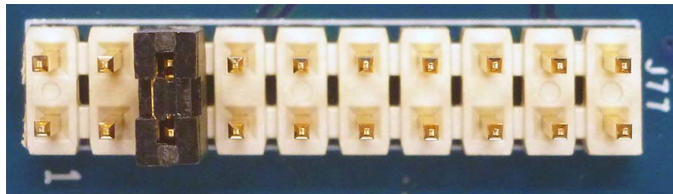

Figure 52.
- (8) PWM_TRI is already connected to VCC on the ISL78224EVAL2Z.
- (9) Jumper J₇₀ Pin 2 to J₇₀ Pin 3 (VCC) to command boost operation.
- (10) Jumper J₈₈ Pin 2 to J₈₈ Pin 1 (VCC) to command continuous conduction mode (CCM) or J₈₈ Pin 2 to J₈₈ Pin 3 (GND) to command diode emulation mode (DE).
- (11) Jumper J₈₉ Pin 2 to J₈₉ Pin 1 (VCC) to command Latch off Fault protection (LAT) or J₈₉ Pin 2 to J₈₉ Pin 3 (GND) to command hiccup fault protection (HIC).
- (12) Remove jumper J₄ to disconnect VIN_FLY from VIN.
- (13) Connect V6 (TP₁₉) to a disabled external 6V source.
- (14) Connect VIN (TP₁₄) and V12 (TP₁₈) to a disabled external 12V source.
- (15) Enable the BAT12, V6, VIN, and V12 voltage sources.
- (16) Jumper J₅₈ to command enable.
- (17) Enable can be verified by observing the presence of voltages at PVCC, VCC, MCUVDD, and CLK_OUT.
- (18) Jumper J₇₇ Pin 5 to J₇₇ Pin 6 to command PWM_EN, see Figure 52. Avoid bounce to this connection.